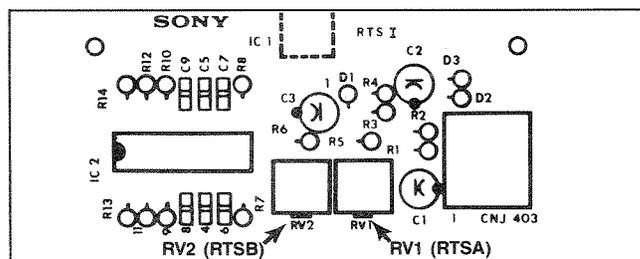

Figure 6-17. RTS PC Board
STEP 9 If the duty cycle is not 50%, it will be necessary to adjust RV1 on the supply RTS board. (See Figure 6-17.)
- STEP 13** If the duty cycle is not 50%, it will be necessary to adjust RV1 on the take-up RTS board. (See Figure 6-17.)
- STEP 15** If the duty cycle is not 50%, it will be necessary to adjust RV2 on the take-up RTS board. (See Figure 6-17.)